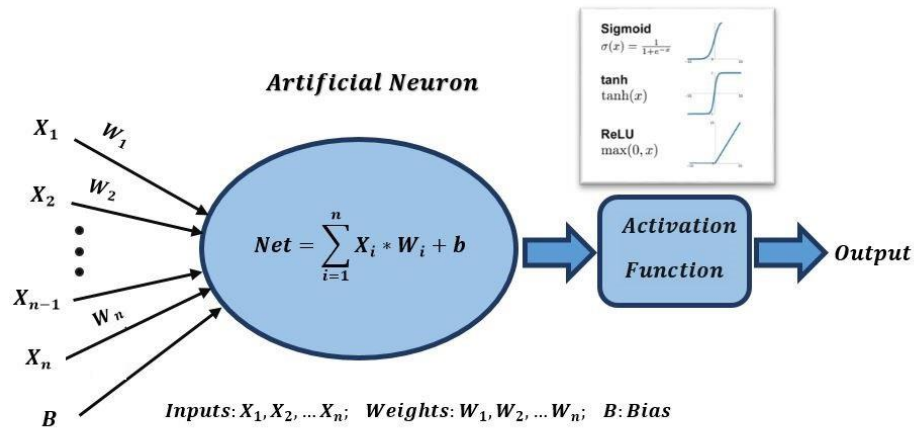
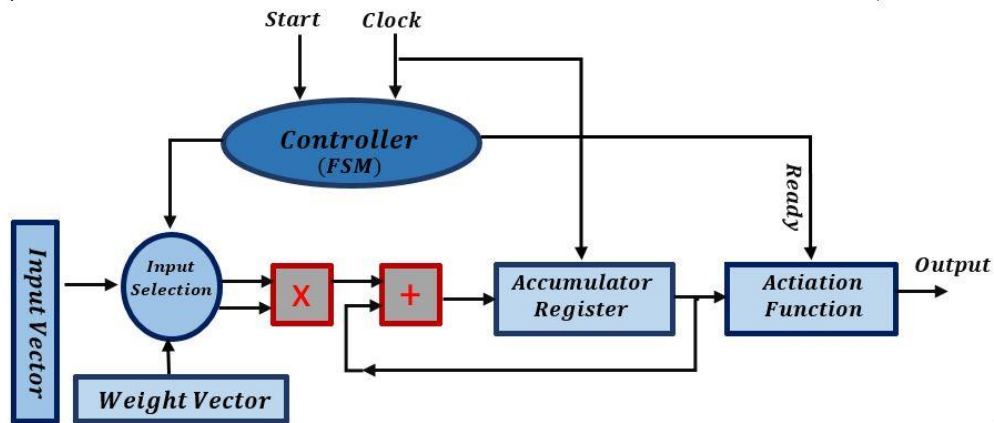

Fig2. A basic artificial neuron model
Fig3. A structural model of an artificial neuron
In this assignment, you should implement a single neuron, depicted in Figure 2. Each neuron in MLP computes the dot product of the inputs and weight vectors and passes the result to an activation function to produce the final output. The weight vector of each neuron is determined during an offline or online training phase. Figure 2 illustrates the required arithmetic operations of a basic neuron, but realistic implementations usually use a **MAC** (multiply-and-accumulate) unit for each neuron to carry out the multiplication/addition operations in serial. Figure 3 shows the implementation of a neuron by applying a MAC module.
As illustrated in Figure 3, computation is initiated by receiving a start signal. The controller then reads each input data and its corresponding weight and passes them to the MAC unit in several iterations. Once the MAC calculation is completed, a ready signal is passed to the activation function unit to generate the neuron output.
- ✓ The number of neuron inputs in Figure 2 (and the number of iterations that the inputs are applied to the MAC) should be changeable.